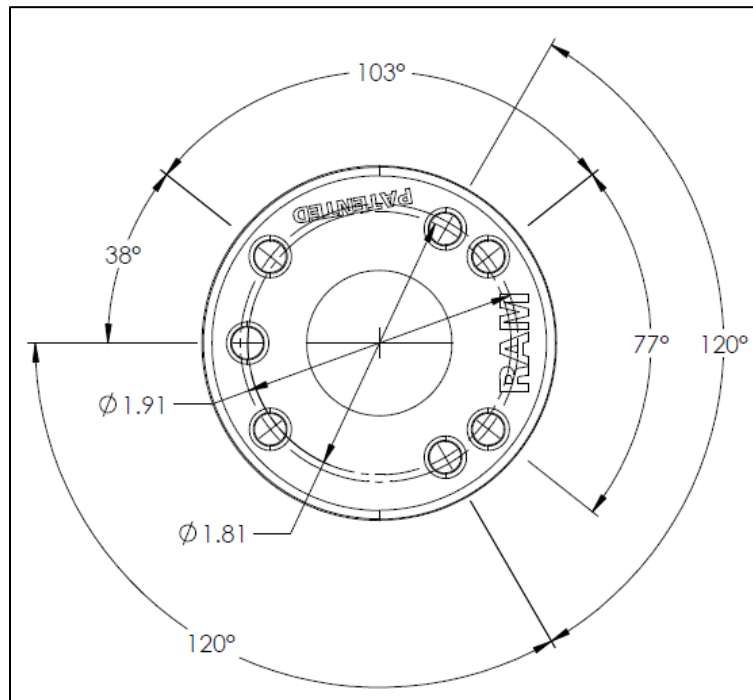

Figure 140: Template
1. Prepare the surface by drilling holes using the template shown in **Figure 140** below.